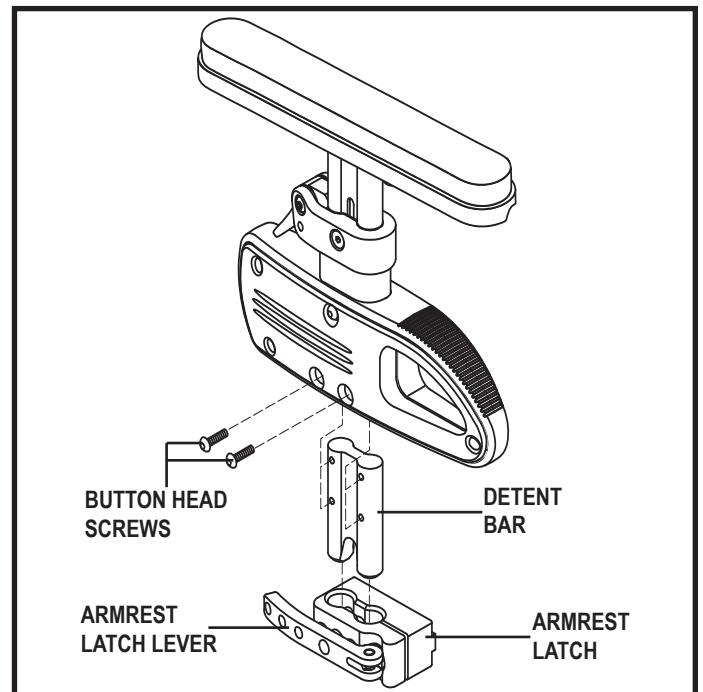

Figure 28. Pediatric Single Post Quick Height Adjustable Armrest Bottom Height Adjustment
2. Remove the two button head screws from the detent bar. **See figure 28.**